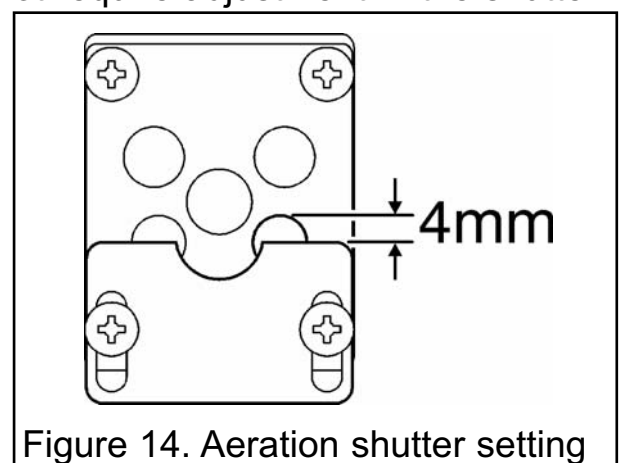

Figure 14. Aeration shutter setting
1. The aeration shutter is factory set and should not require adjustment. If the shutter is not as shown in figure 14 and requires adjustment, loosen the two aeration shutter screws, slide the aeration shutter to the position shown in figure 14 and tighten the fixing screws.